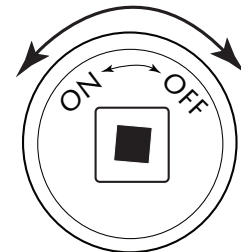

Fig. 8. Key Valve Face
1. Insert key into shut-off valve and secure into square end (see Figs 8 -10).